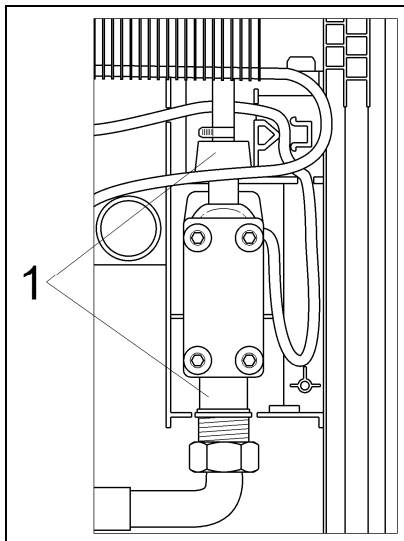

Figure 010-31: Inlet Valve Assembly
3. Release the inlet valve assembly from the rear of the machine, Figure 010-31, Item 1.